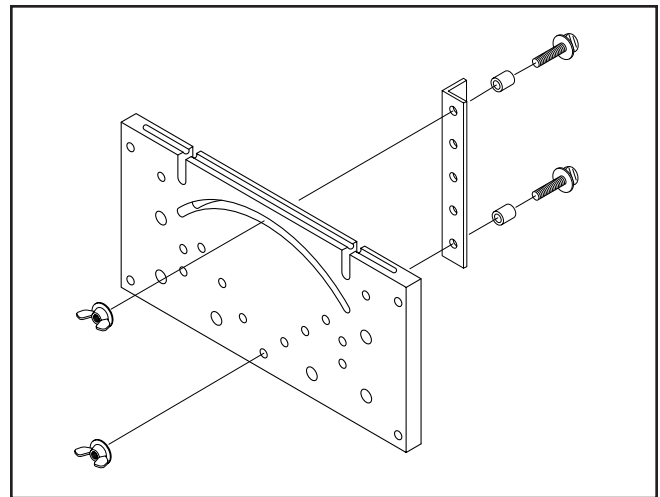

Figure 4. Mounting the Angle Bracket to the Shop Fox®.
1. Slide the aluminum bushing onto the thumb screw and insert the thumb screw through one of the end holes in the angle bracket. Figure 4.